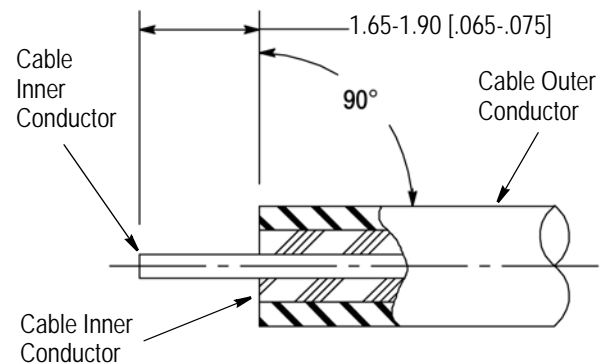

Figure 3
1. Strip the cable to the dimensions shown in Figure 3.